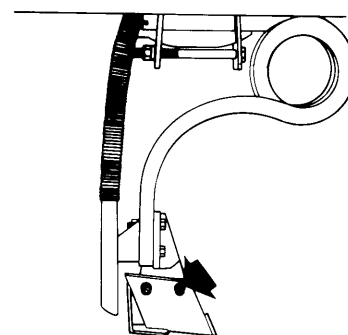

Figure 24
- 3/ Remove the two retaining bolts which attach the opener and remove the worn openers. (See figure 24)